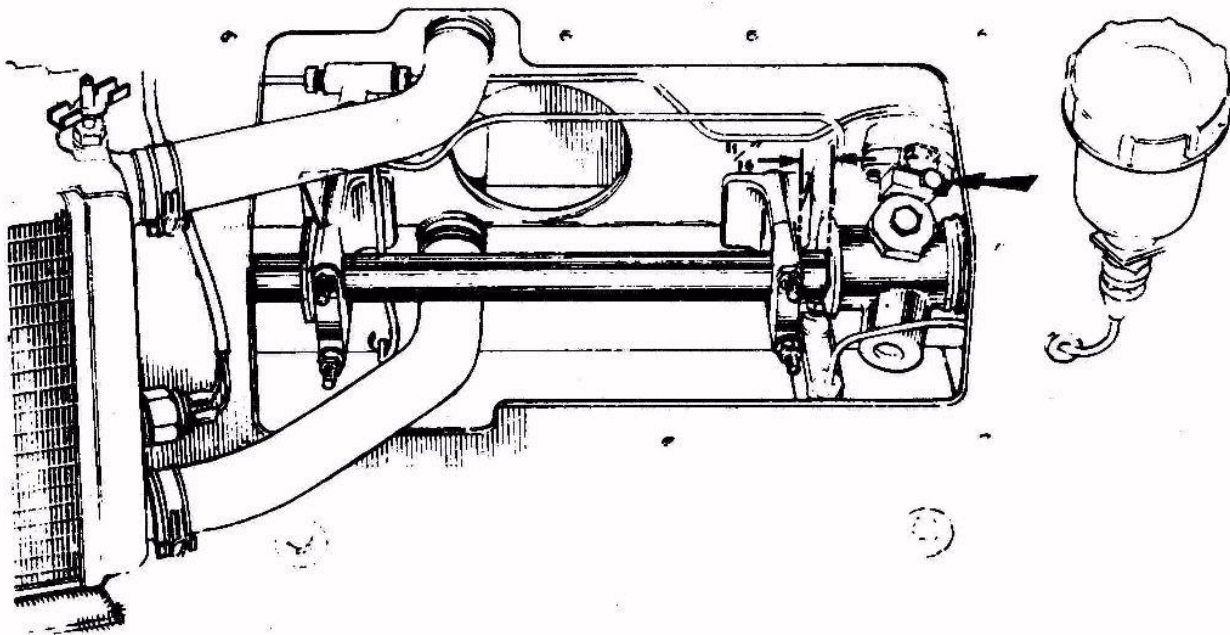

Fig. 9 - Steering Unit Mounting.
4. Position the steering unit so that the distance between the inner face of the pinion housing and its adjacent bracket is 11/16 in. (17.4 mm.) See Fig. 9.